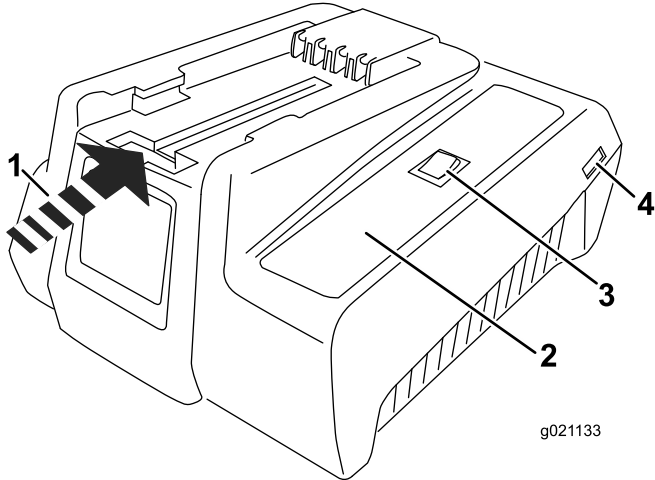
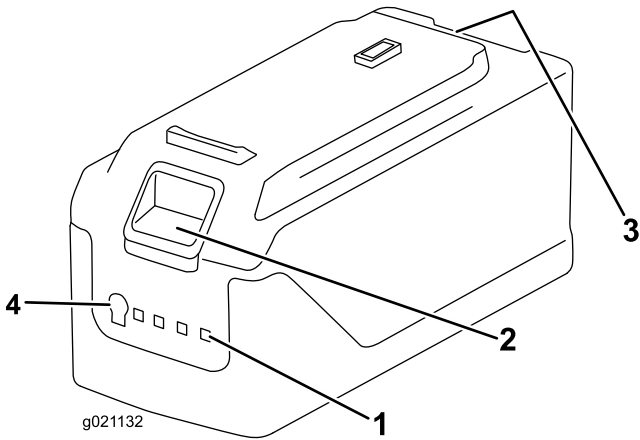

Figure 22
Figure 23
1. If the power cord is not plugged in to the charger, plug it in to the charger (Figure 22), then plug the power cord into a power socket.
2. Turn the battery upside down and line up the battery terminal with the slot in the charger (Figure 22 and Figure 23).